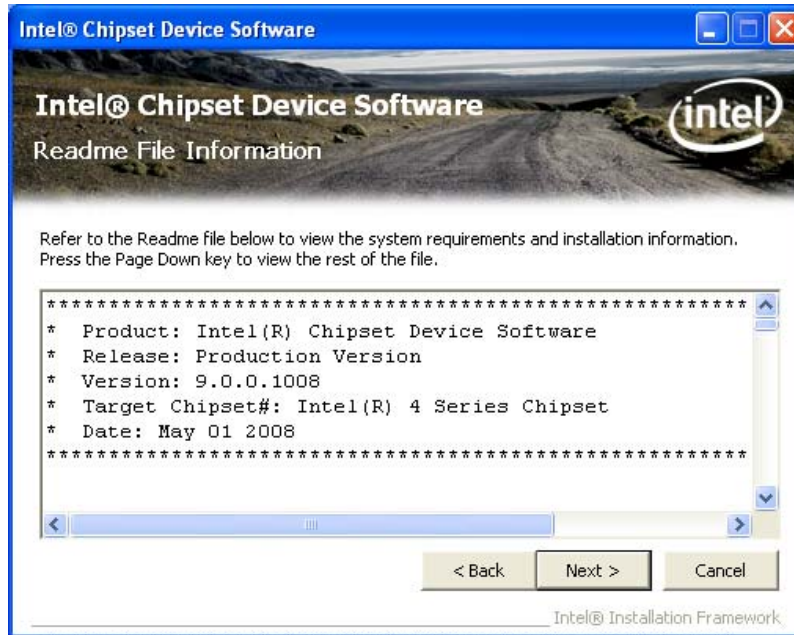

Figure 6-6: Chipset Driver Read Me File
Step 10: The Read Me file in Figure 6-6 appears.